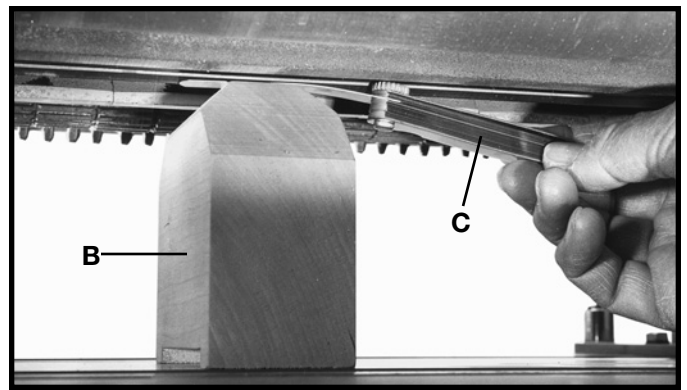
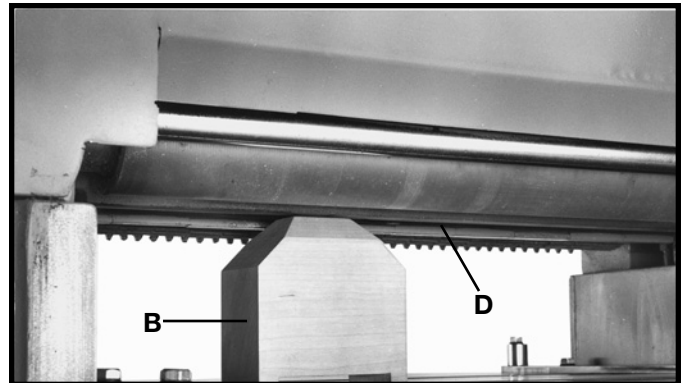
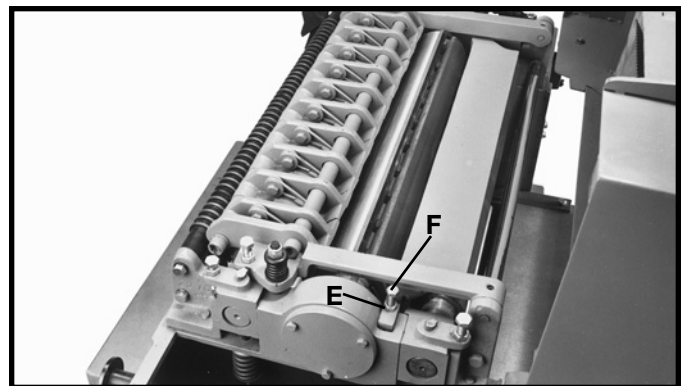

Fig. 40
Fig. 41
Fig. 42
3. Place gage block (B) Fig. 40, on the table surface and directly under the cutterhead as shown. Using a .010" feeler gage (C) Fig. 40, placed on top of the gage block, raise the table until cutterhead knife (D) Fig. 41 touches the feeler gage when the knife is at its lowest point. **DO NOT MOVE THE TABLE ANY FURTHER UNTIL THE ADJUSTMENT HAS BEEN COMPLETED.**
4. Move gage block (B) Fig. 41, under pressure bar (D) as shown. The bottom of pressure bar (D) Fig. 41, should just touch the top of gage block (B). Check the opposite end of the pressure bar in the same manner.
5. If an adjustment to the height of the pressure bar is necessary, loosen lock nut (E) Fig. 42, and turn adjustment screw (F) until the bottom of pressure bar (D) Fig. 41, just touches top of gage block (B). Repeat the adjustment at the other end of the pressure bar in the same manner.